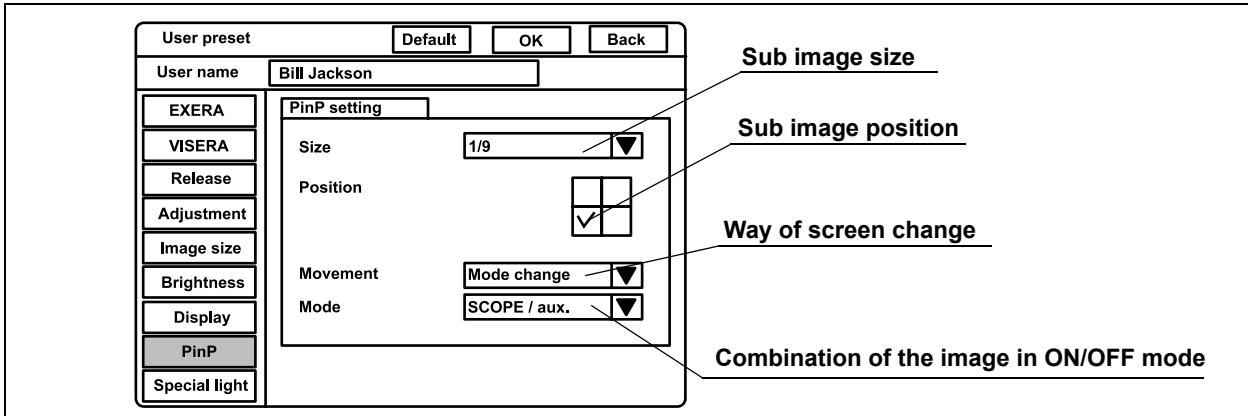
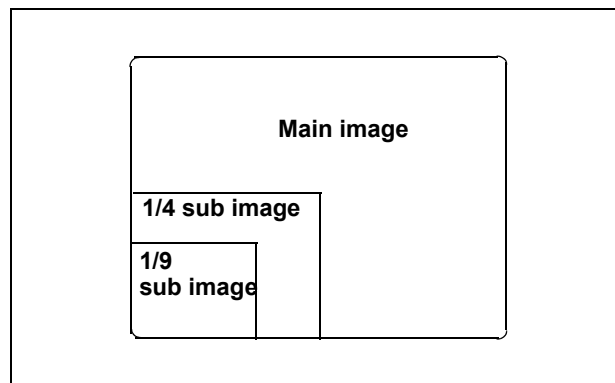

Figure 9.41
Figure 9.42
Click “PinP” on the system setup menu. The setting items appear on the right side of the window (see Figure 9.41).
1. Click “ ▼ ” of “Size” (see Figure 9.41). The PinP sub image sizes appear in the pull-down menu (see Figure 9.42).
1. Click “▼” of “Movement” (see Figure 9.41). The PinP modes appear in the pull-down menu.
3. Click “▼” of “Mode” if “ON/OFF” of “Movement” is selected (see Figure 9.41). The display modes appear in the pull-down menu.